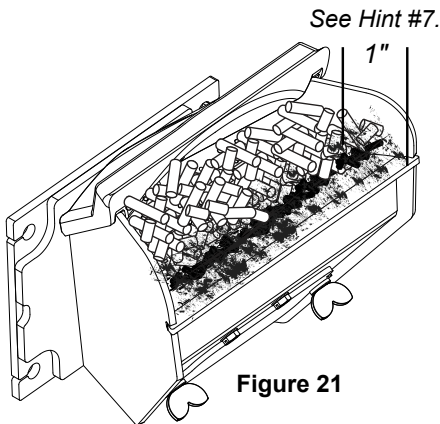

Figure 21
7. Setting the feed limit # for maximum burn: With the unit burning in "AUTO", turn to "Stove Mode" and put the fan on "H". Set the Temperature Dial to #7. Allow the unit to burn for about 30 minutes and check ash on front of burn pot. Figure 21. If the ash line is larger than 1", turn the feed limit from #3 to #4. Allow another 30 minutes of burn time and check again. If, at #6 setting, a 1" or less ash bed is not obtainable, it is not a problem. The 1" ash bed is only a maximum burn rate and at most normal settings the ash bed will be larger.